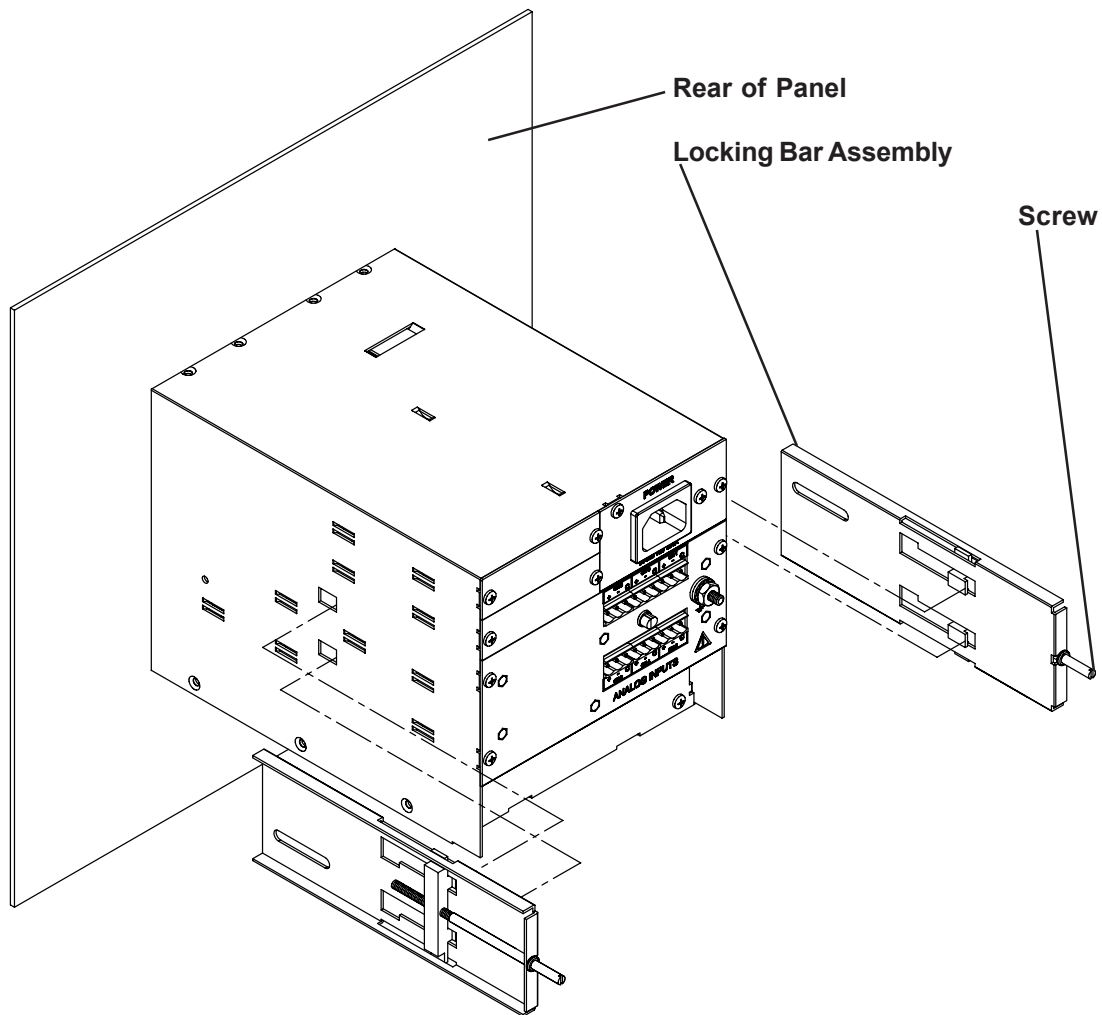

Figure 2-3 Rear View Panel Installation
2.2.1.5 With the Recorder held firmly in place against the panel, install one of the locking bar assemblies by sliding the locking bar notch into the slot on the side of the Recorder enclosure as shown in Figure 2-3.